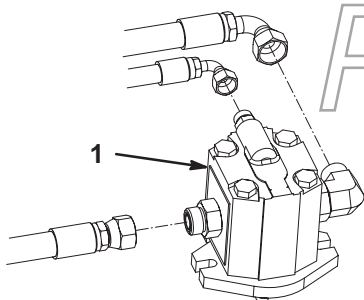

Figure 6
1. Lift arm ball joint mount (2)
9. Disconnect the hydraulic hoses from the fittings on the hydraulic motor (center deck only) (Fig. 6).